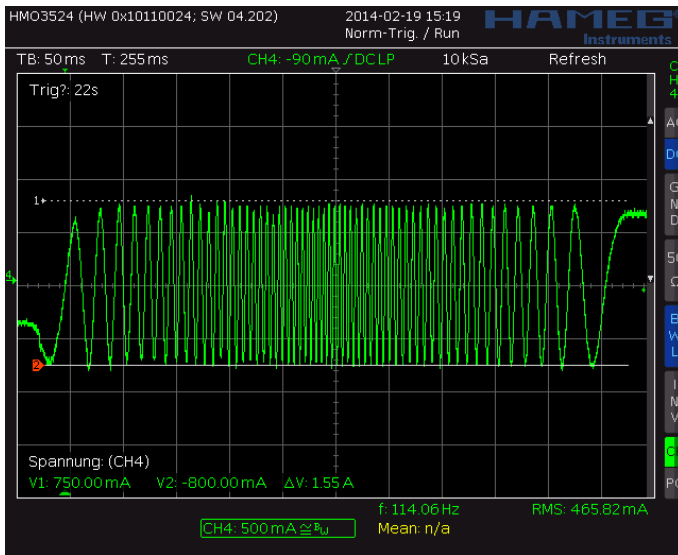
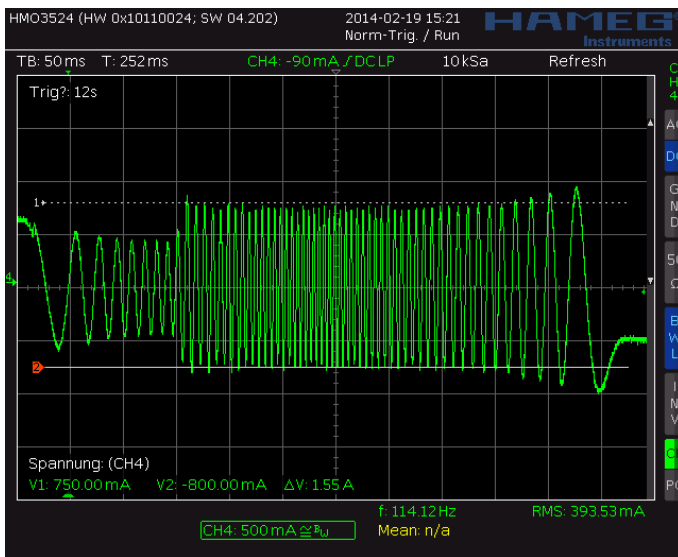
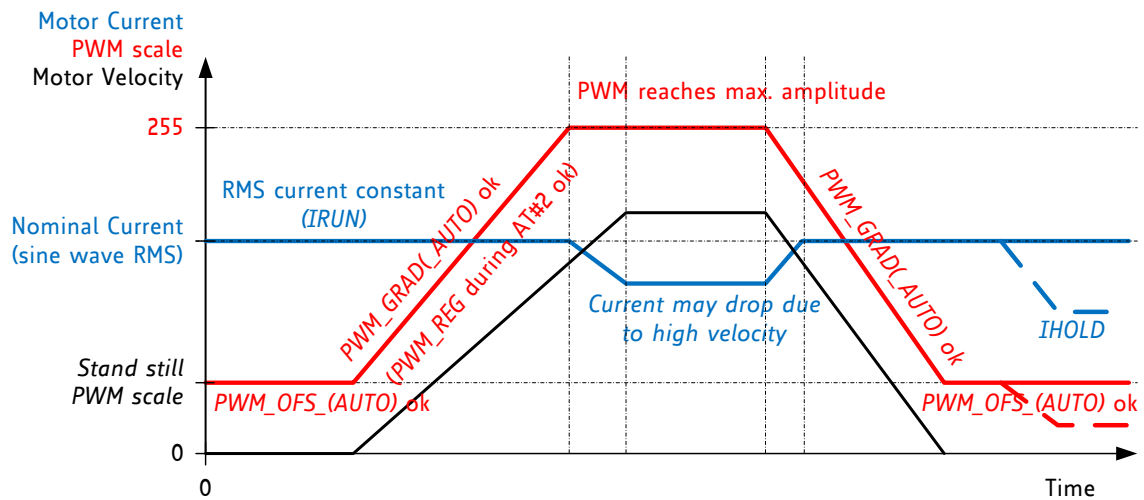

Figure 7.3 Scope shot: good setting for PWM_REG
Figure 7.4 Scope shot: too small setting for PWM_REG during AT#2
Figure 7.5 Successfully determined PWM_GRAD(AUTO) and PWM_OFS(AUTO)
In StealthChop voltage PWM mode, the autoscaling function ($pwm_autoscale = 1$, $pwm_auto_grad = 1$) regulates the motor current to the desired current setting. Automatic scaling is used as part of the automatic tuning process (AT), and for subsequent tracking of changes within the motor parameters. The driver measures the motor current during the chopper on time and uses a proportional regulator to regulate PWM_SCALE_AUTO in order match the motor current to the target current. PWM_REG is the proportionality coefficient for this regulator. Basically, the proportionality coefficient should be as small as possible in order to get a stable and soft regulation behavior, but it must be large enough to allow the driver to quickly react to changes caused by variation of the motor target current (e.g. change of VREF). During initial tuning step AT#2, PWM_REG also compensates for the change of motor velocity. Therefore, a high acceleration during AT#2 will require a higher setting of PWM_REG . With careful selection of homing velocity and acceleration, a minimum setting of the regulation gradient often is sufficient ($PWM_REG=1$). PWM_REG setting should be optimized for the fastest required acceleration and deceleration ramp (compare Figure 7.3 and Figure 7.4). The quality of the setting PWM_REG in phase AT#2 and the finished automatic tuning procedure (or non-automatic settings for PWM_OFS and PWM_GRAD) can be examined when monitoring motor current during an acceleration phase Figure 7.5.